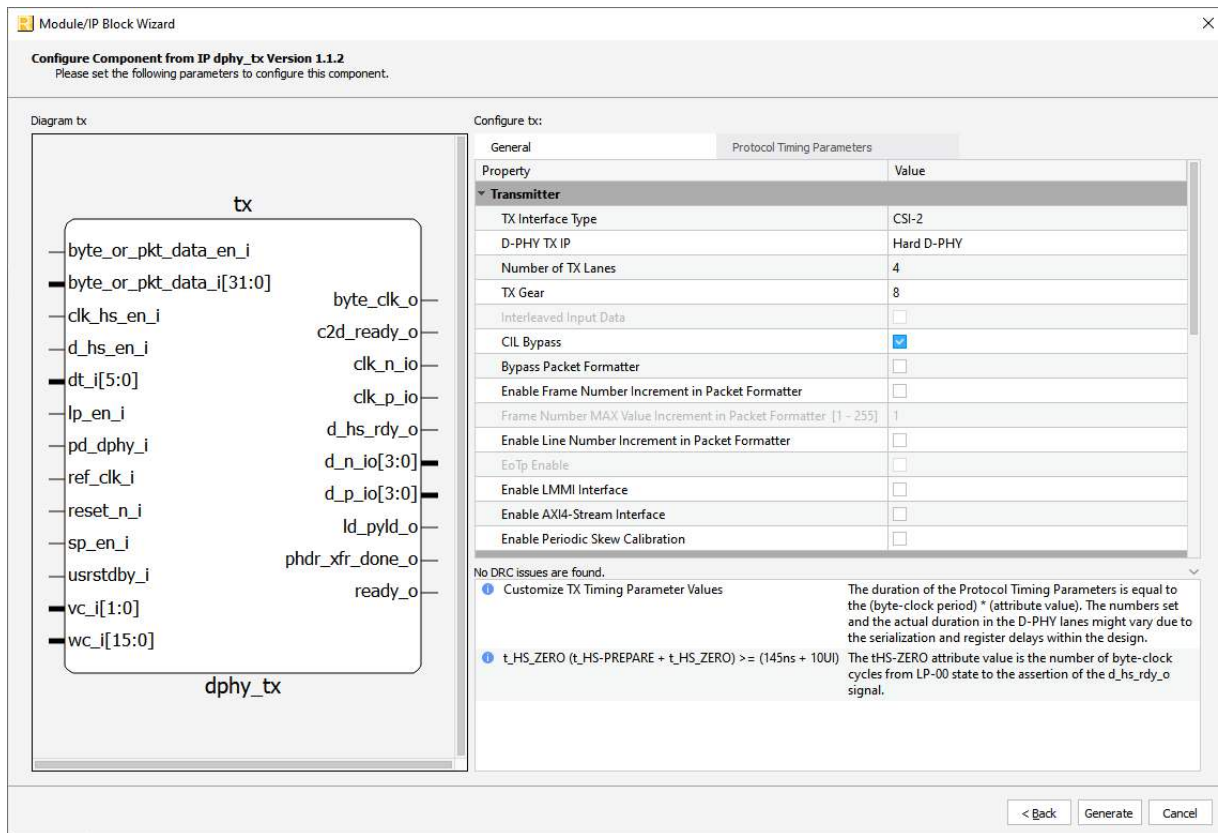
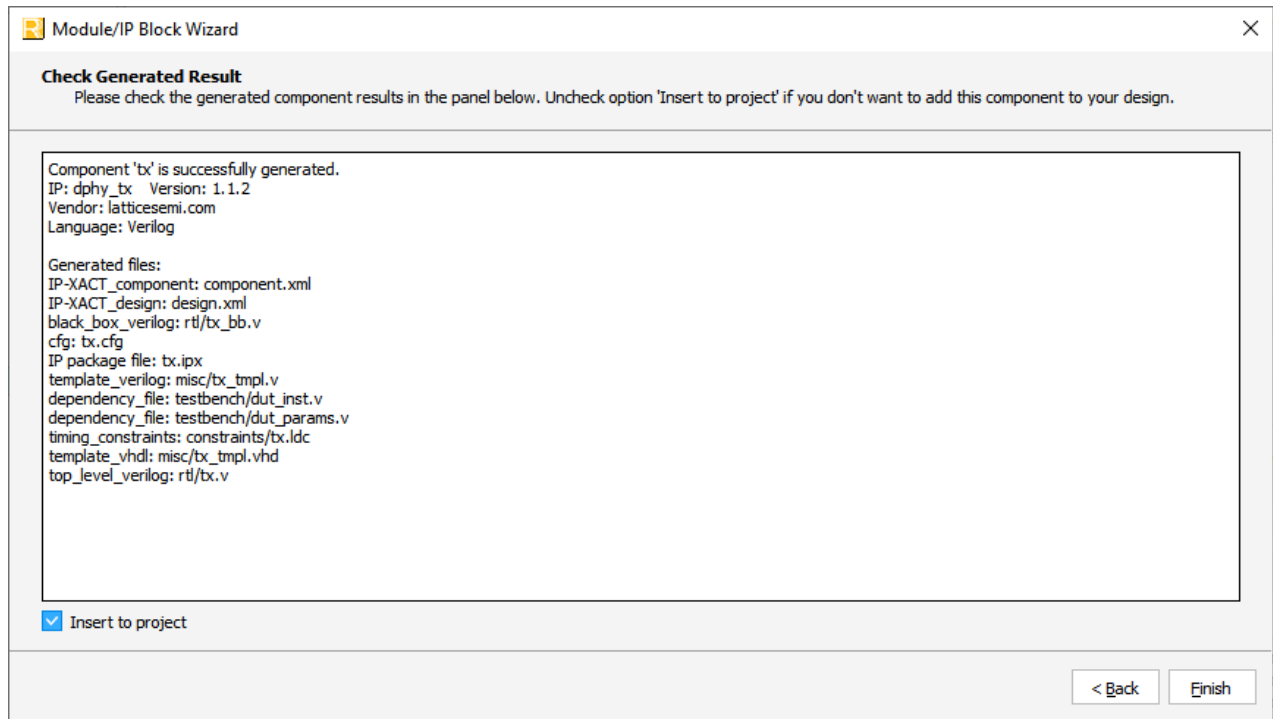

Figure 4.1. Configure Block of D-PHY Tx
Figure 4.2. Check Generating Result
2. In the dialog box of the **Module/IP Block Wizard** window, configure CSI-2/DSI D-PHY Tx IP Core according to custom specifications, using drop-down menus and check boxes. As a sample configuration, see Figure 4.1. For configuration options, see Table 2.3.
3. Click **Generate**. The **Check Generating Result** dialog box opens, showing design block messages and results as shown in Figure 4.2.
Core Generation, Simulation, and Validation	<ul style="list-style-type: none"> <li>Updated reference to the Lattice Radiant Software User Guide.</li> <li>Updated <a href="#">Figure 4.1. Configure Block of D-PHY Tx</a>.</li> <li>Updated <a href="#">Figure 4.2. Check Generating Result</a>.</li> </ul>